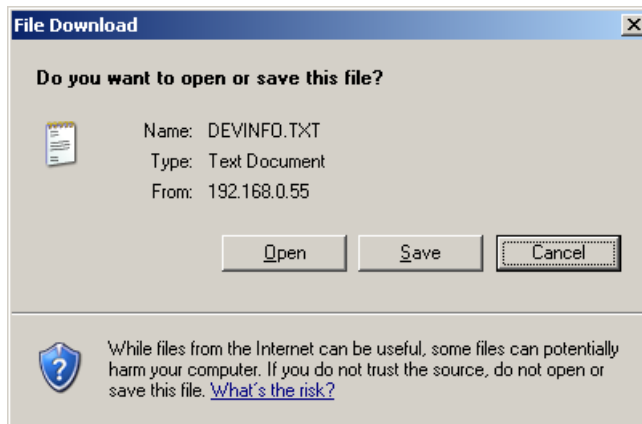

Fig. 7-10 File Download Dialog
- ✧ In the **File download** dialog (see figure 7-10), click the **Open** button.